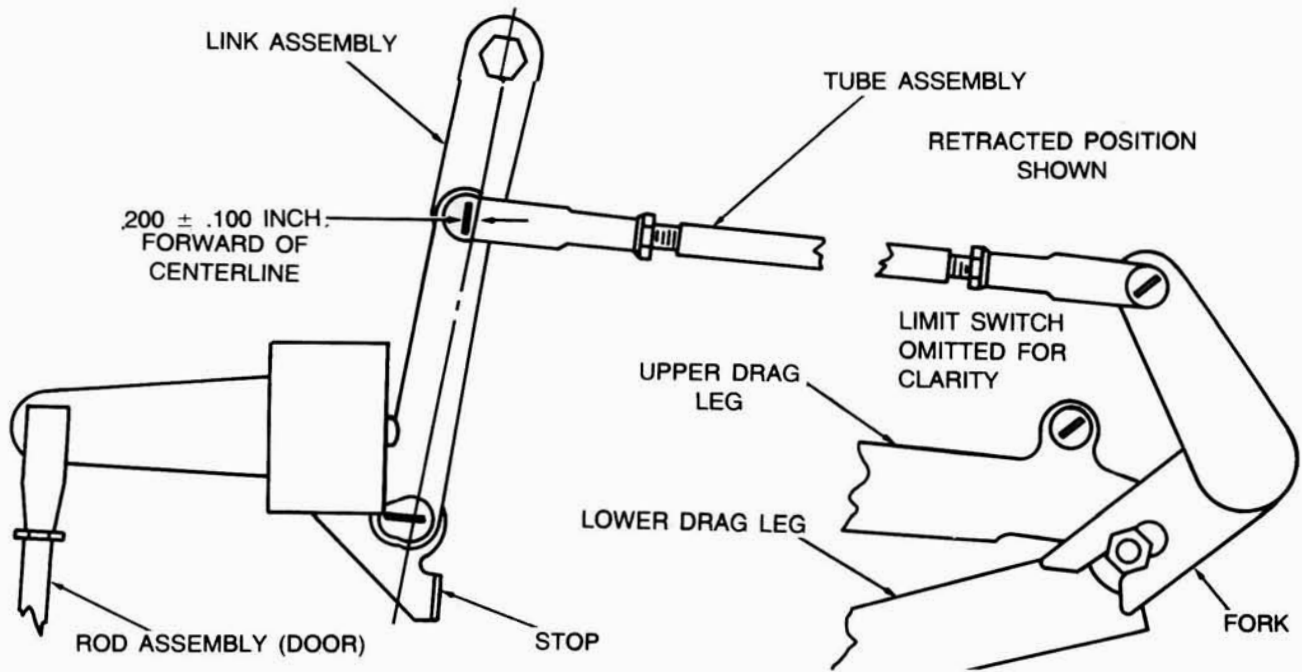

Figure 2
6. With doors disconnected, manually retract the nose landing gear and adjust the fore-and-aft pushrod in the nose landing gear door actuating mechanism (see Figure 2), so the pin on the left side of the drag brace knee engages the door actuating fork SLOT as the landing gear retracts. Hydraulically retract the landing gear and fine adjust so that the forward pivot arms move to within  $.200 \pm$